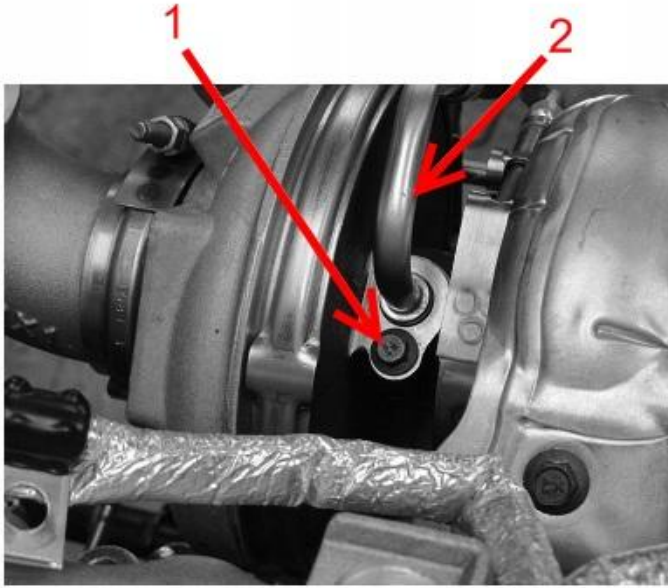

Figure 8: HP Turbocharger Oil Supply Tube
20. Remove bolt (**Figure 8**, Item 1) from oil supply tube (**Figure 8**, Item 2). Discard bolt.
21. Apply rust penetrating oil to oil supply tube (**Figure 8**, Item 2) and disconnect from HP turbocharger.